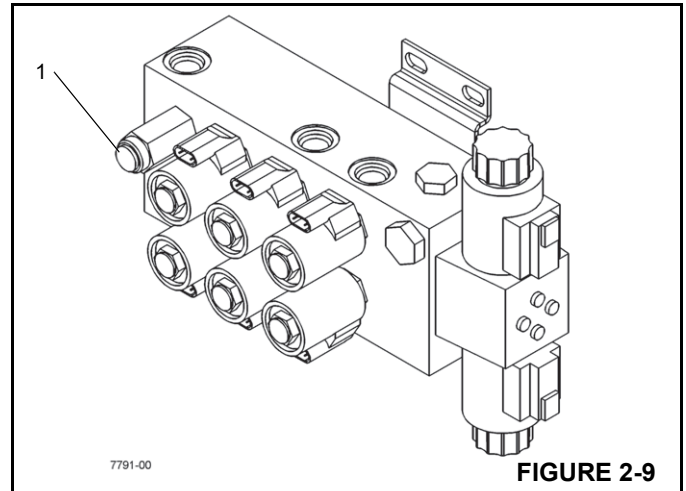

FIGURE 2-9
4. Activate the extend function for the selected outrigger. Verify the relief pressure is 1000 (+50/-0) psi (6895 +345/-0 kPa). The relief valve (1) for the outrigger circuit is located on the front outrigger control manifold, Figure 2-9. Remove the cap on the relief valve to access the adjustment screw.